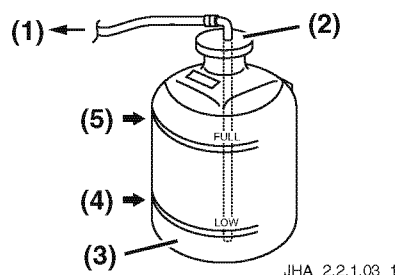

Figure 4-2
1. Check the fluid level in the coolant recovery tank by looking through the container walls. The fluid level of the coolant recovery tank (**Figure 4-2, (3)**) should be between the upper (**Figure 4-2, (5)**) and lower (**Figure 4-2, (4)**) limit lines. Avoid opening the filler cap (**Figure 4-2, (2)**) unnecessarily.